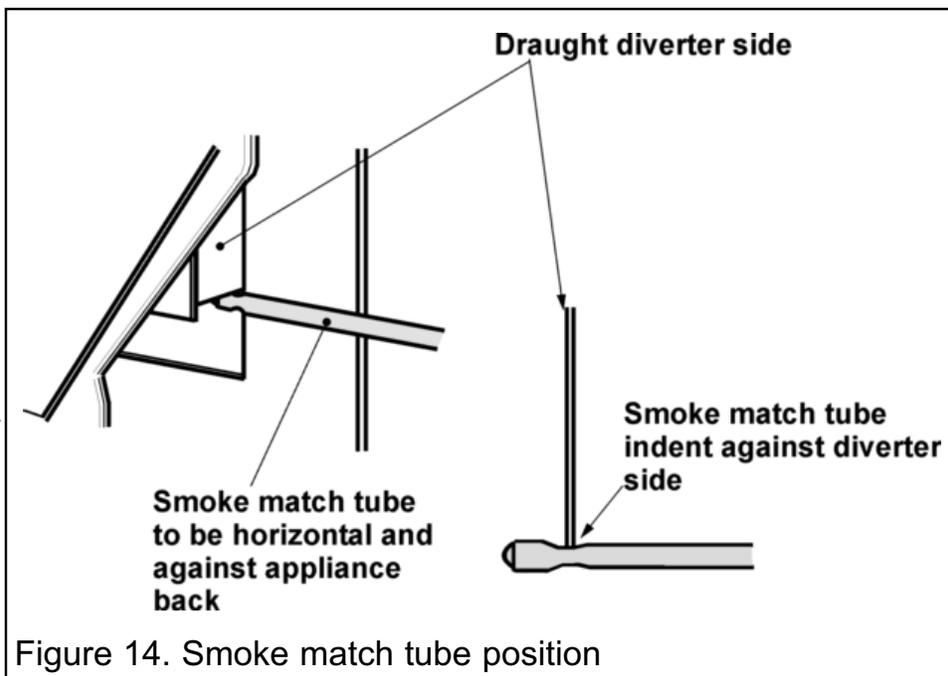

Figure 14. Smoke match tube position
4. Insert the smoke match tube (with lighted match) into the side of the appliance and against the back panel. Position the tube so that it is horizontal, against the back panel and with its top edge touching the side of the draught diverter box. Slide the tube until the indent in the tube is level with the diverter side (See figure 14).